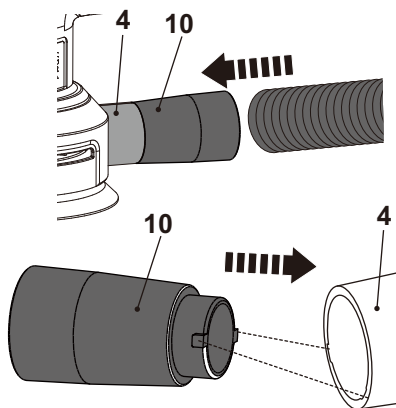

Fig. 5
1. Attach an external dust extraction device, e.g. a suitable vacuum cleaner attachment ($\varnothing 35\text{mm}$), to the dust extraction adaptor (10) and then attach to dust extraction outlet (4). Then rotate the dust collection adaptor clockwise (10) to a fixed position. Fig. 5